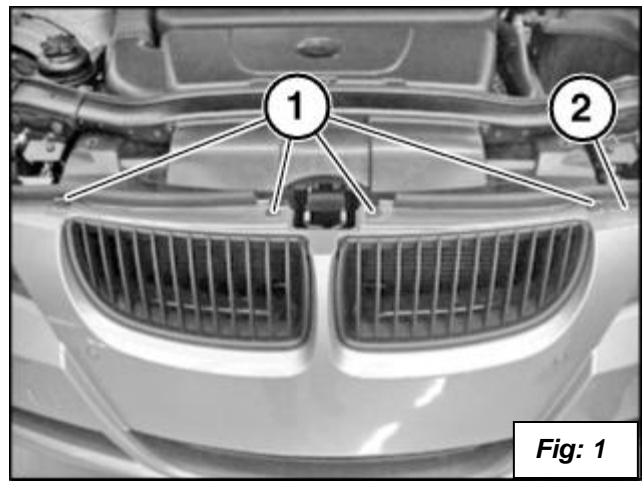

Fig: 1
3. Start by removing four Torx screws (1) from bumper trim (2) as shown in **figure 1**.